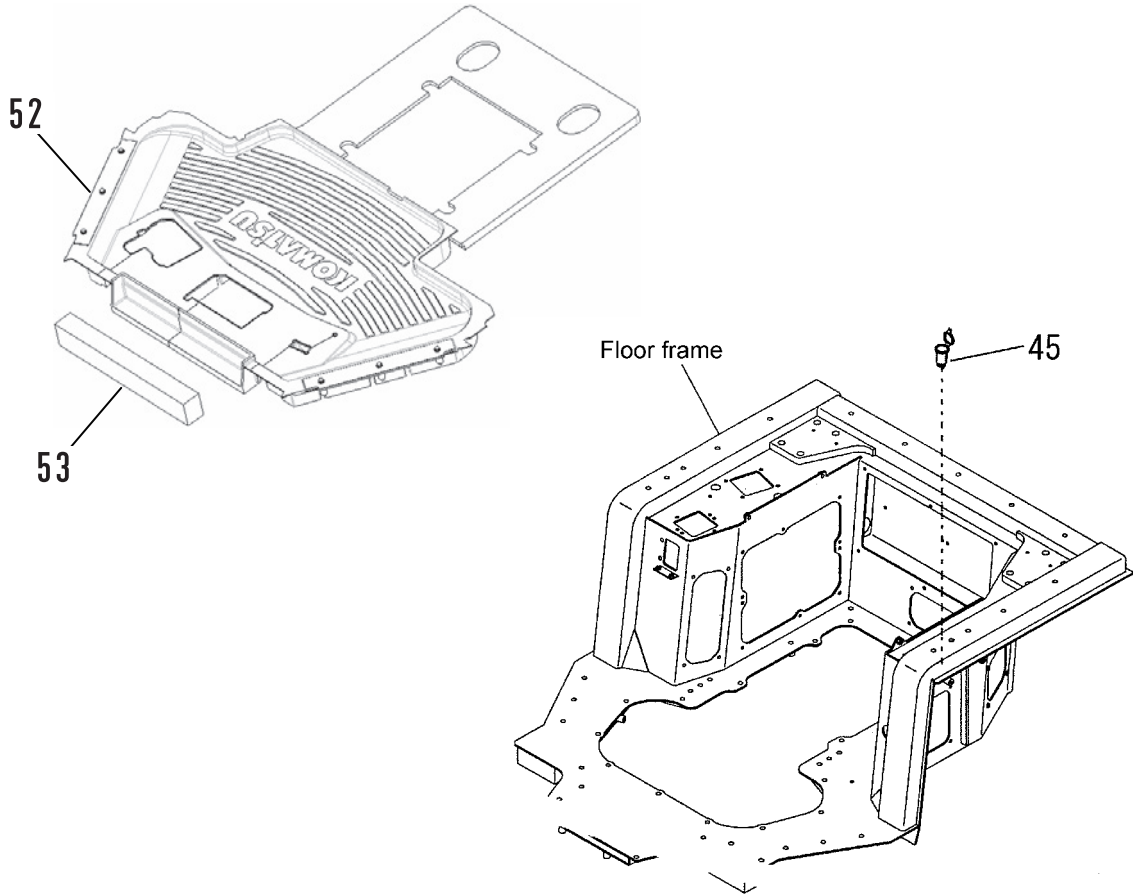

Fig. 12
- ★ The ashtray (44), socket assembly (45) (see Fig. 12) and the cigarette lighter (46) are already installed to the box before its shipment from the factory.